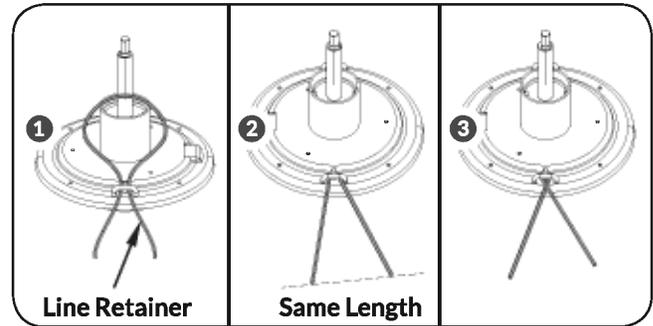

Figure 15b
- First, put the new trimmer line through the line retainer. (See **Figure 15b, illustration 1**)
- Next, check to make sure that the ends of the line are even. (See **Figure 15b, illustration 2**)
- Finally, cross both sides of the line. (See **Figure 15b, illustration 3**)